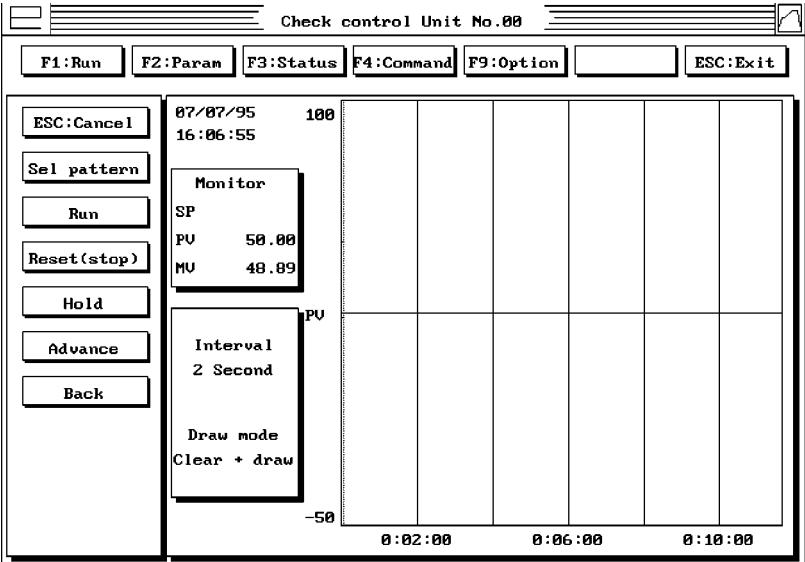

Figure 13
3. Select **Run** from the new vertical menu on the left side of the screen (Figure 13).